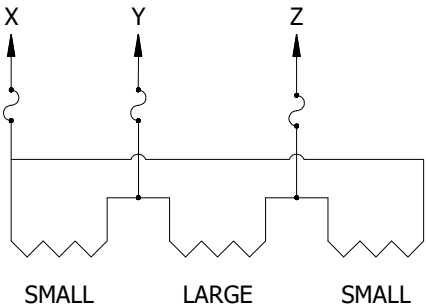

FIGURE 2
- B. REFERRING TO FIGURE 2, FIND SMALL TRANSFORMER SIZE IN COLUMN 5 OF THREE PHASE TRANSFORMER FUSE SIZING TABLES. FUSE SIZE OF PHASE "X" IS LOCATED UNDER COLUMN 6. FIND LARGE TRANSFORMER SIZE IN COLUMN 7. FUSE SIZE FOR PHASES "Y" AND "Z" IS LOCATED IN COLUMN 8.